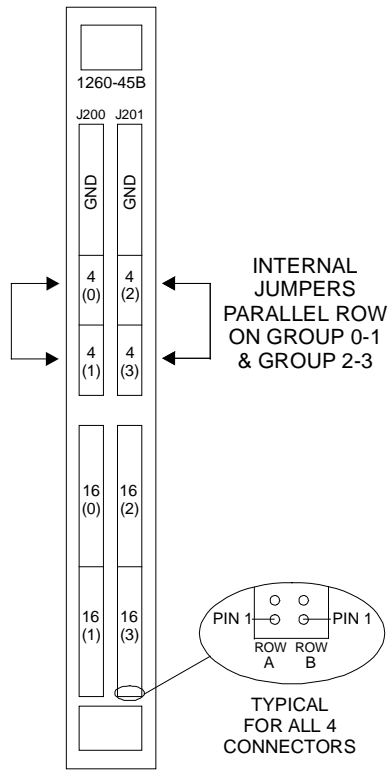

Figure A-5, 1260-45B Dual 4X32 Matrices
- * 1260-45B Dual 4x32 matrices (rows jumpered), J9, J10 (See **Figure A-5**)